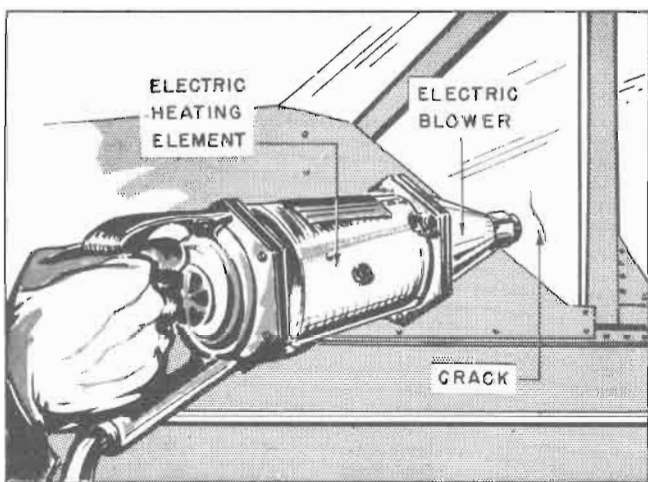

Figure 99 — Applying Hot Air Blast to Plastic Panel
4. ISOLATED CRACKS.—(See figures 99 and 100.)—At the first sign of cracking, a hole $\frac{1}{8}$ - to $\frac{3}{16}$ -